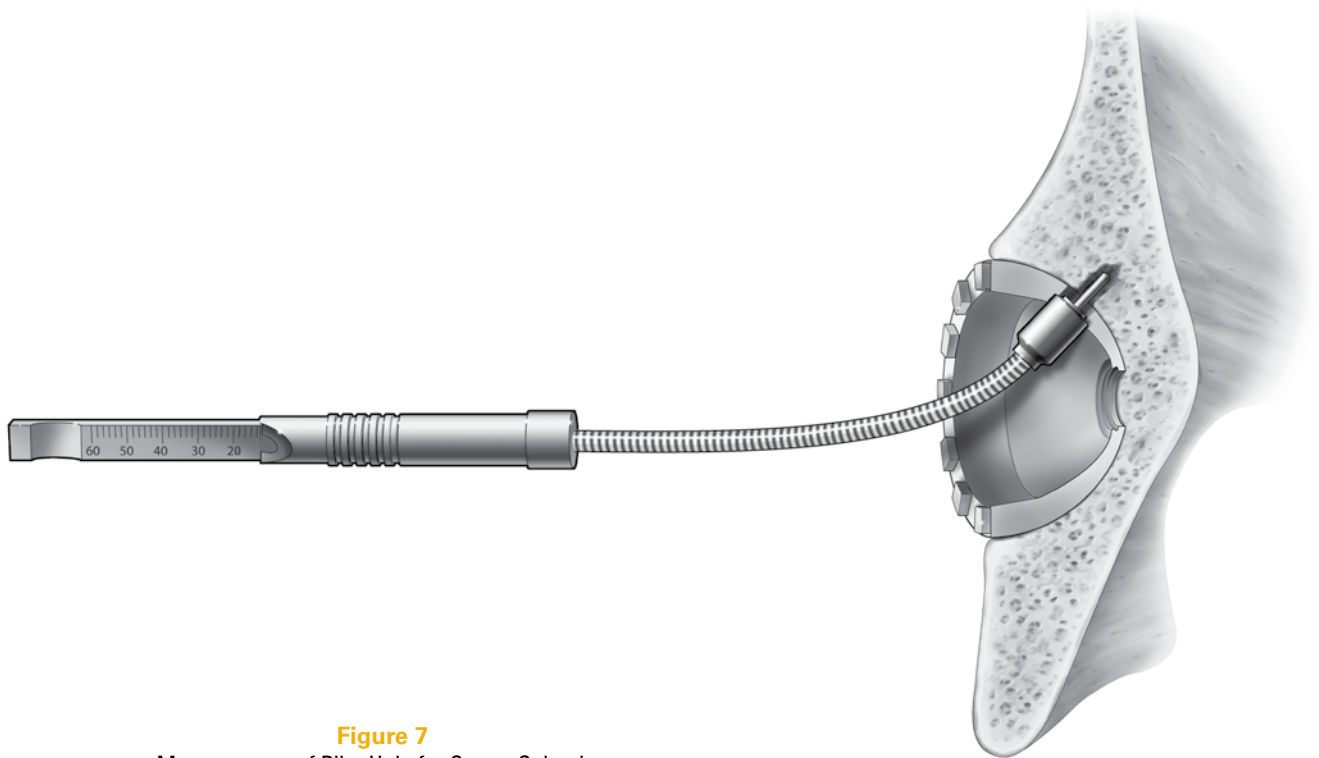

Figure 7
Step 3: Determine screw length by inserting the **Flexible Depth Gauge** and sliding the barrel down into the screw hole (*Figure 7*).